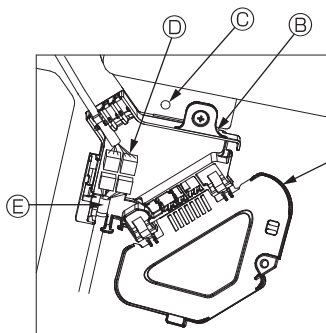

Fig. 10-8
- Securely connect the junction wire connector of the vane motor and the panel vane motor wire connector in the connector box. (Fig. 10-8)